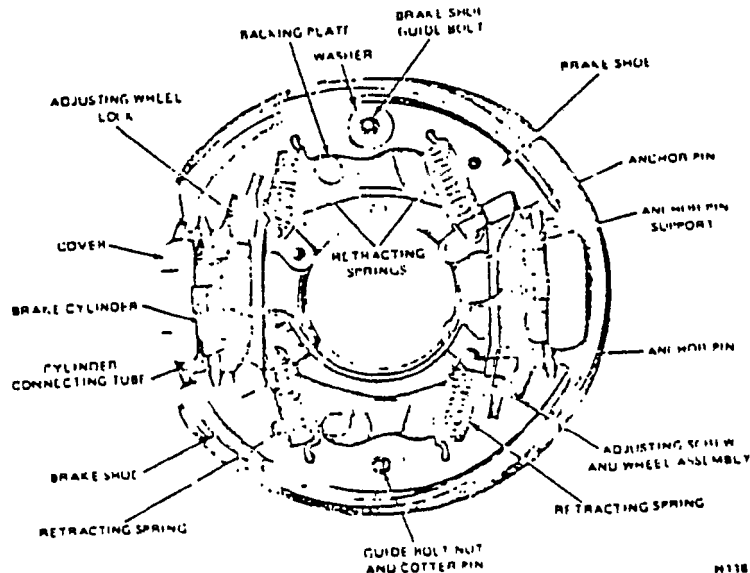

FIG. 4 Two Cylinder Brake—Rear—P-500
3. Place the brake shoe against the backing plate, insert the ends in the brake cylinder links, and install the shoe guide bolt, washer, and nut (Fig. 4). Finger tighten the nut, then loosen it one full turn and install the cotter pin.